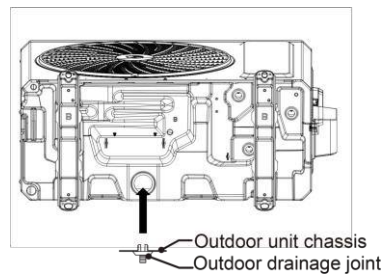

Fig. 4.4-1 Drainage Connection Diagram
- (1) Ensure that the sound and airflow of the unit will not affect people, animals, or plants, etc.
- (2) Ensure that the unit has good ventilation. If a canopy is to be installed for the outdoor unit, note that the heat dissipation and absorption should not be affected.
- (3) The unit should be installed in a place with a solid foundation and make sure that the unit is installed upright. The impact of strong wind, typhoon and earthquake or other natural disasters should be fully considered, and the installation should be reinforced.
- (4) Condensate drain of the outdoor unit: buckle snap the drainage joint of the outdoor unit into the drainage hole located in the middle of the chassis, as shown in Figure 4.4-1, and ensure reliable and tight fitting. Then, connect the drainage pipe to the drainage mouth, and guide the drainage pipe to a proper place for drain.